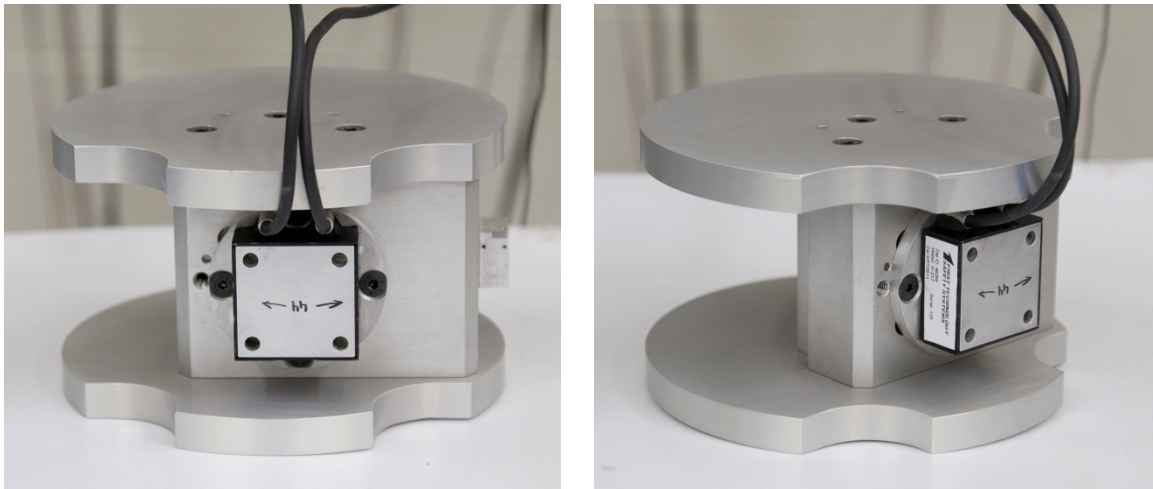

Figure 39. Mount 6 axis upper neck load cell to headform for right lateral neck tests
- Mount the 6 axis upper neck load cell to the headform using four M5 x 12 FHCS. For right lateral flexion tests, use the forward set of bolt holes for the load cell. Wiring should protrude out the left side of the headform (Figure 39).